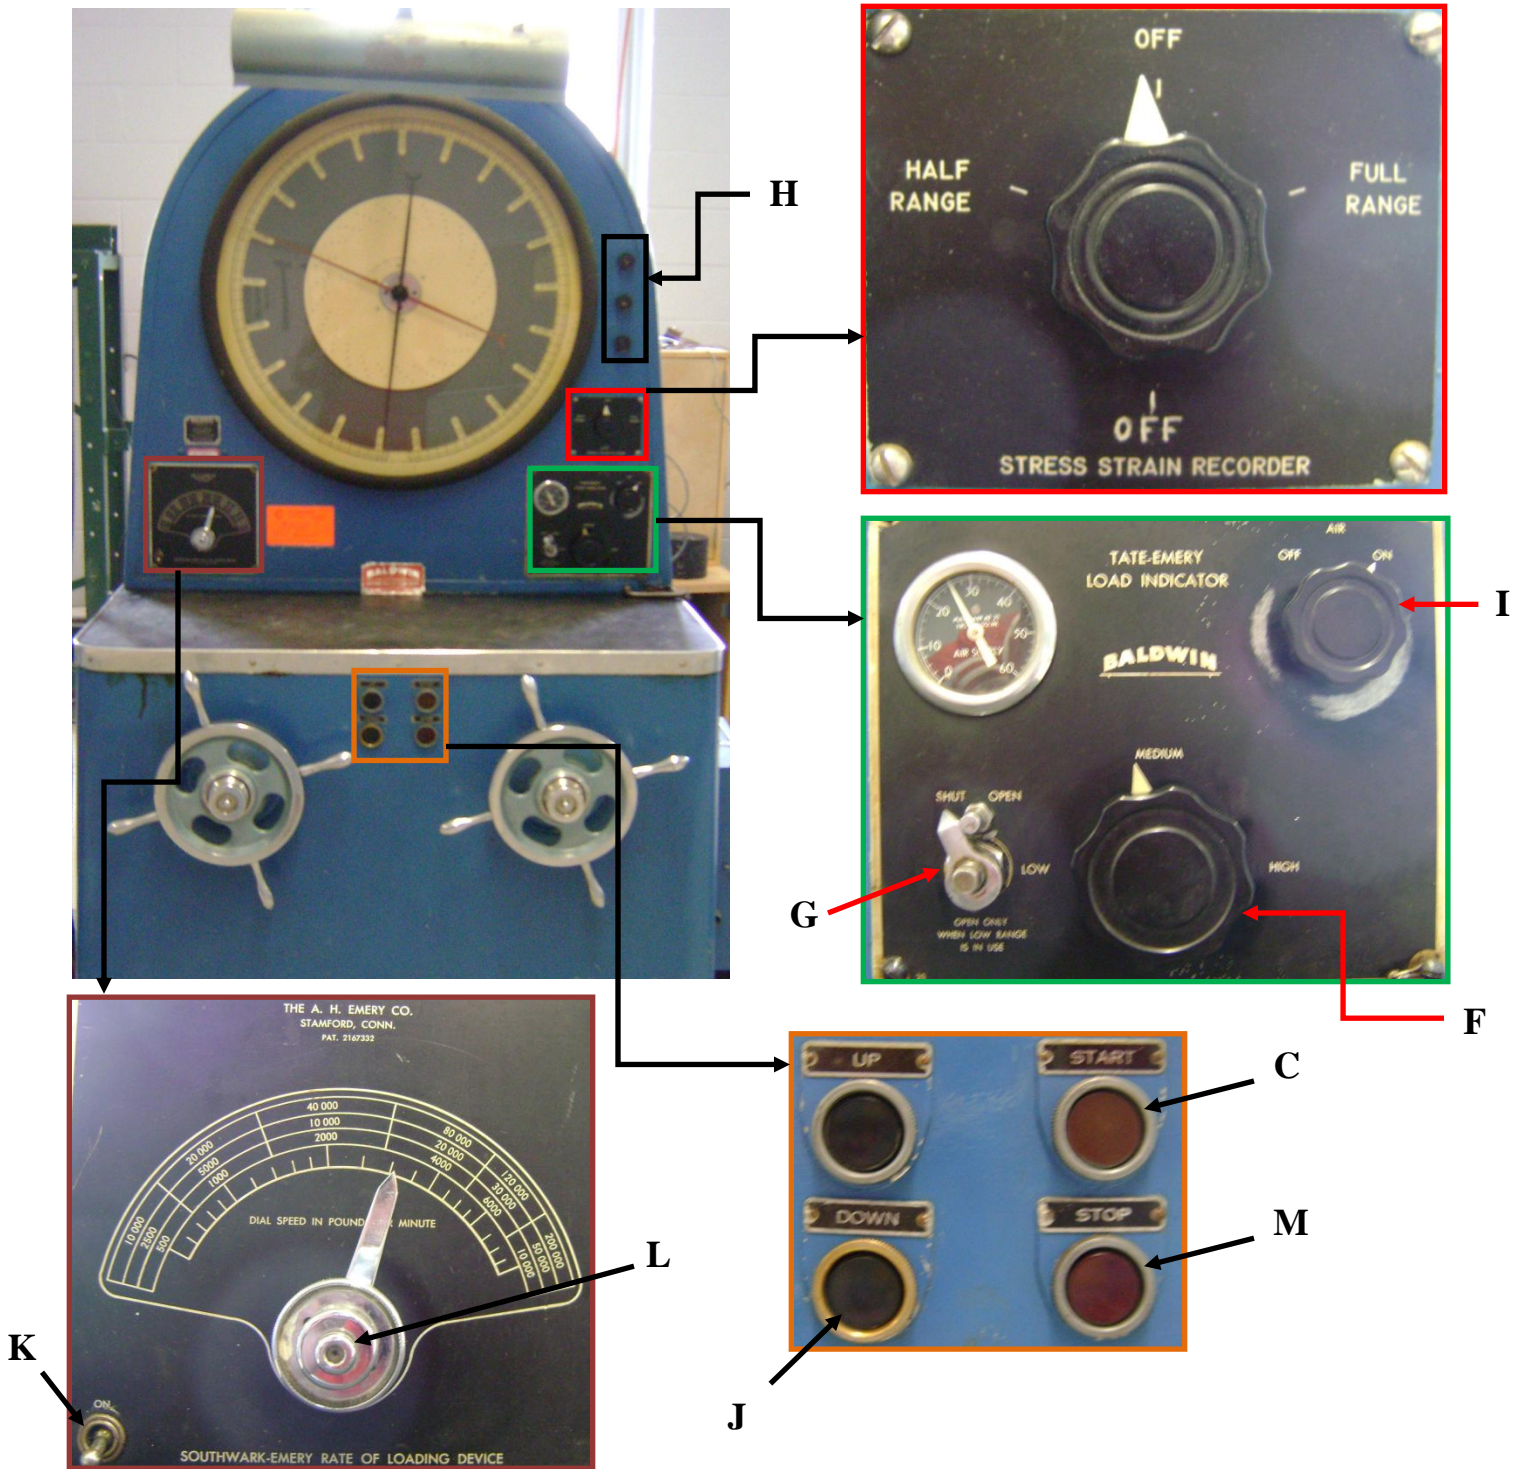

Figure 2. Baldwin Control Station
- Press “START” button **Figure 2 (C)**
- Select appropriate load range **Figure 2 (F)**
- Turn dial to OPEN; or **Figure 2 (G)**
- Turn dial to “SHUT” position **Figure 2 (G)**
- Use H, M, L dials to zero load wheel as required **Figure 2 (H)**
- Ensure air dial is turned to ON **Figure 2 (I)**
- Press “DOWN” button to bring cross-head down (leave 10mm gap) **Figure 2 (J)**
- Switch load dial to “ON” **Figure 2 (K)**
- Turn dial to loading rate desired **Figure 2 (L)**
- Switch load dial to “OFF” **Figure 2 (K)**
- Press “STOP” button **Figure 2 (M)**